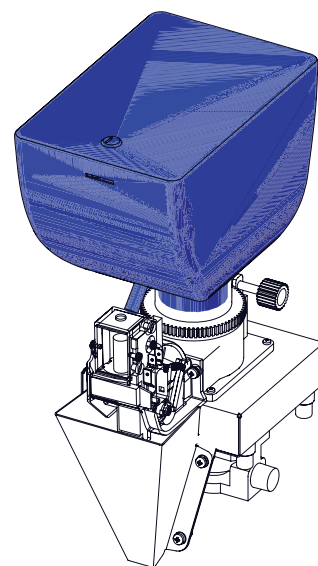

Fig.11.14
11.2.2.4 Coffee container (see fig. 11.14)